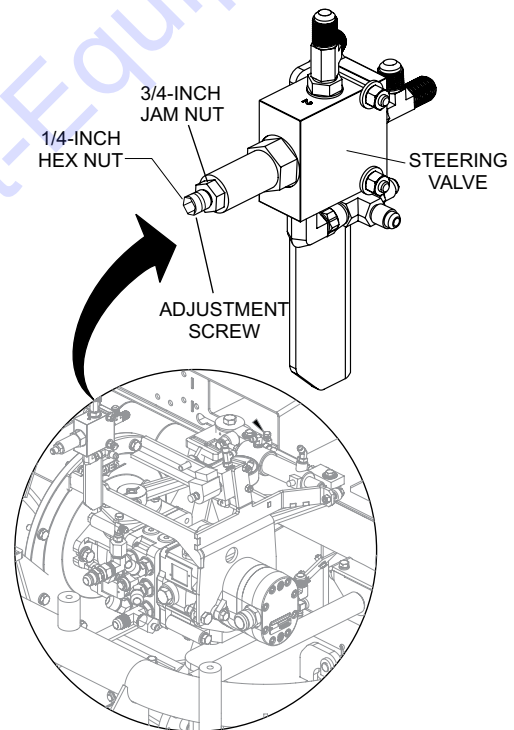

Figure 30. Steering Pressure Adjustment
- Loosen 3/4" jam nut on steering valve (Figure 30).